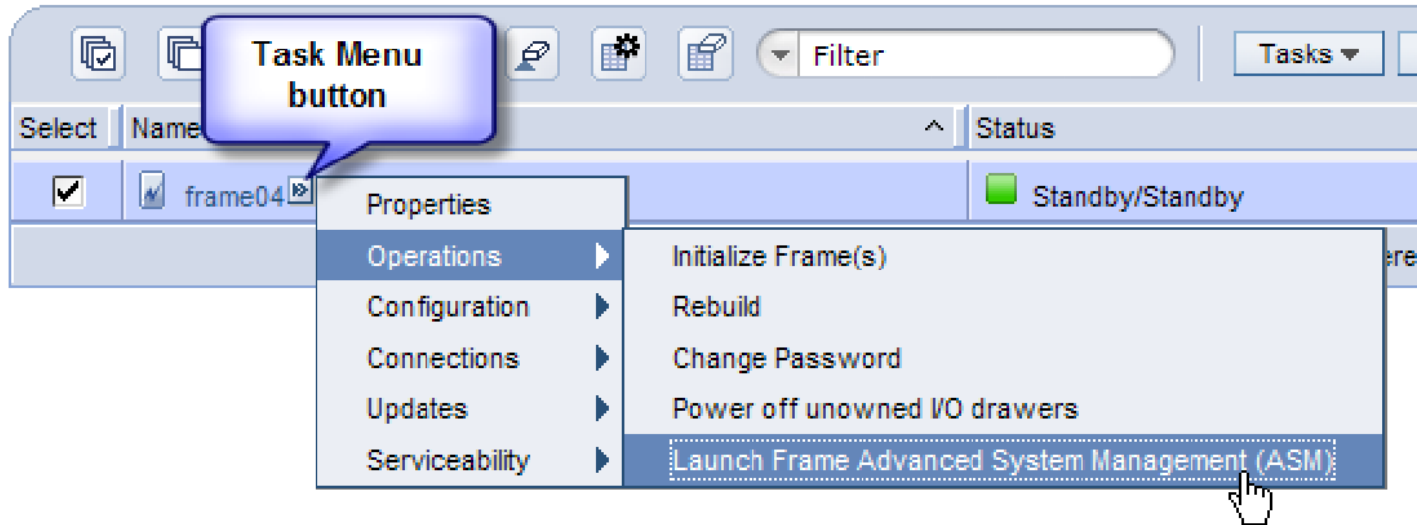

Figure 11 Launch Frame Advanced System Management (ASM)
- From the Tasks Menu right-arrow pull-down menu, click **Operations** → **Launch Frame Advanced Systems Management (ASM)** as shown in Figure 11